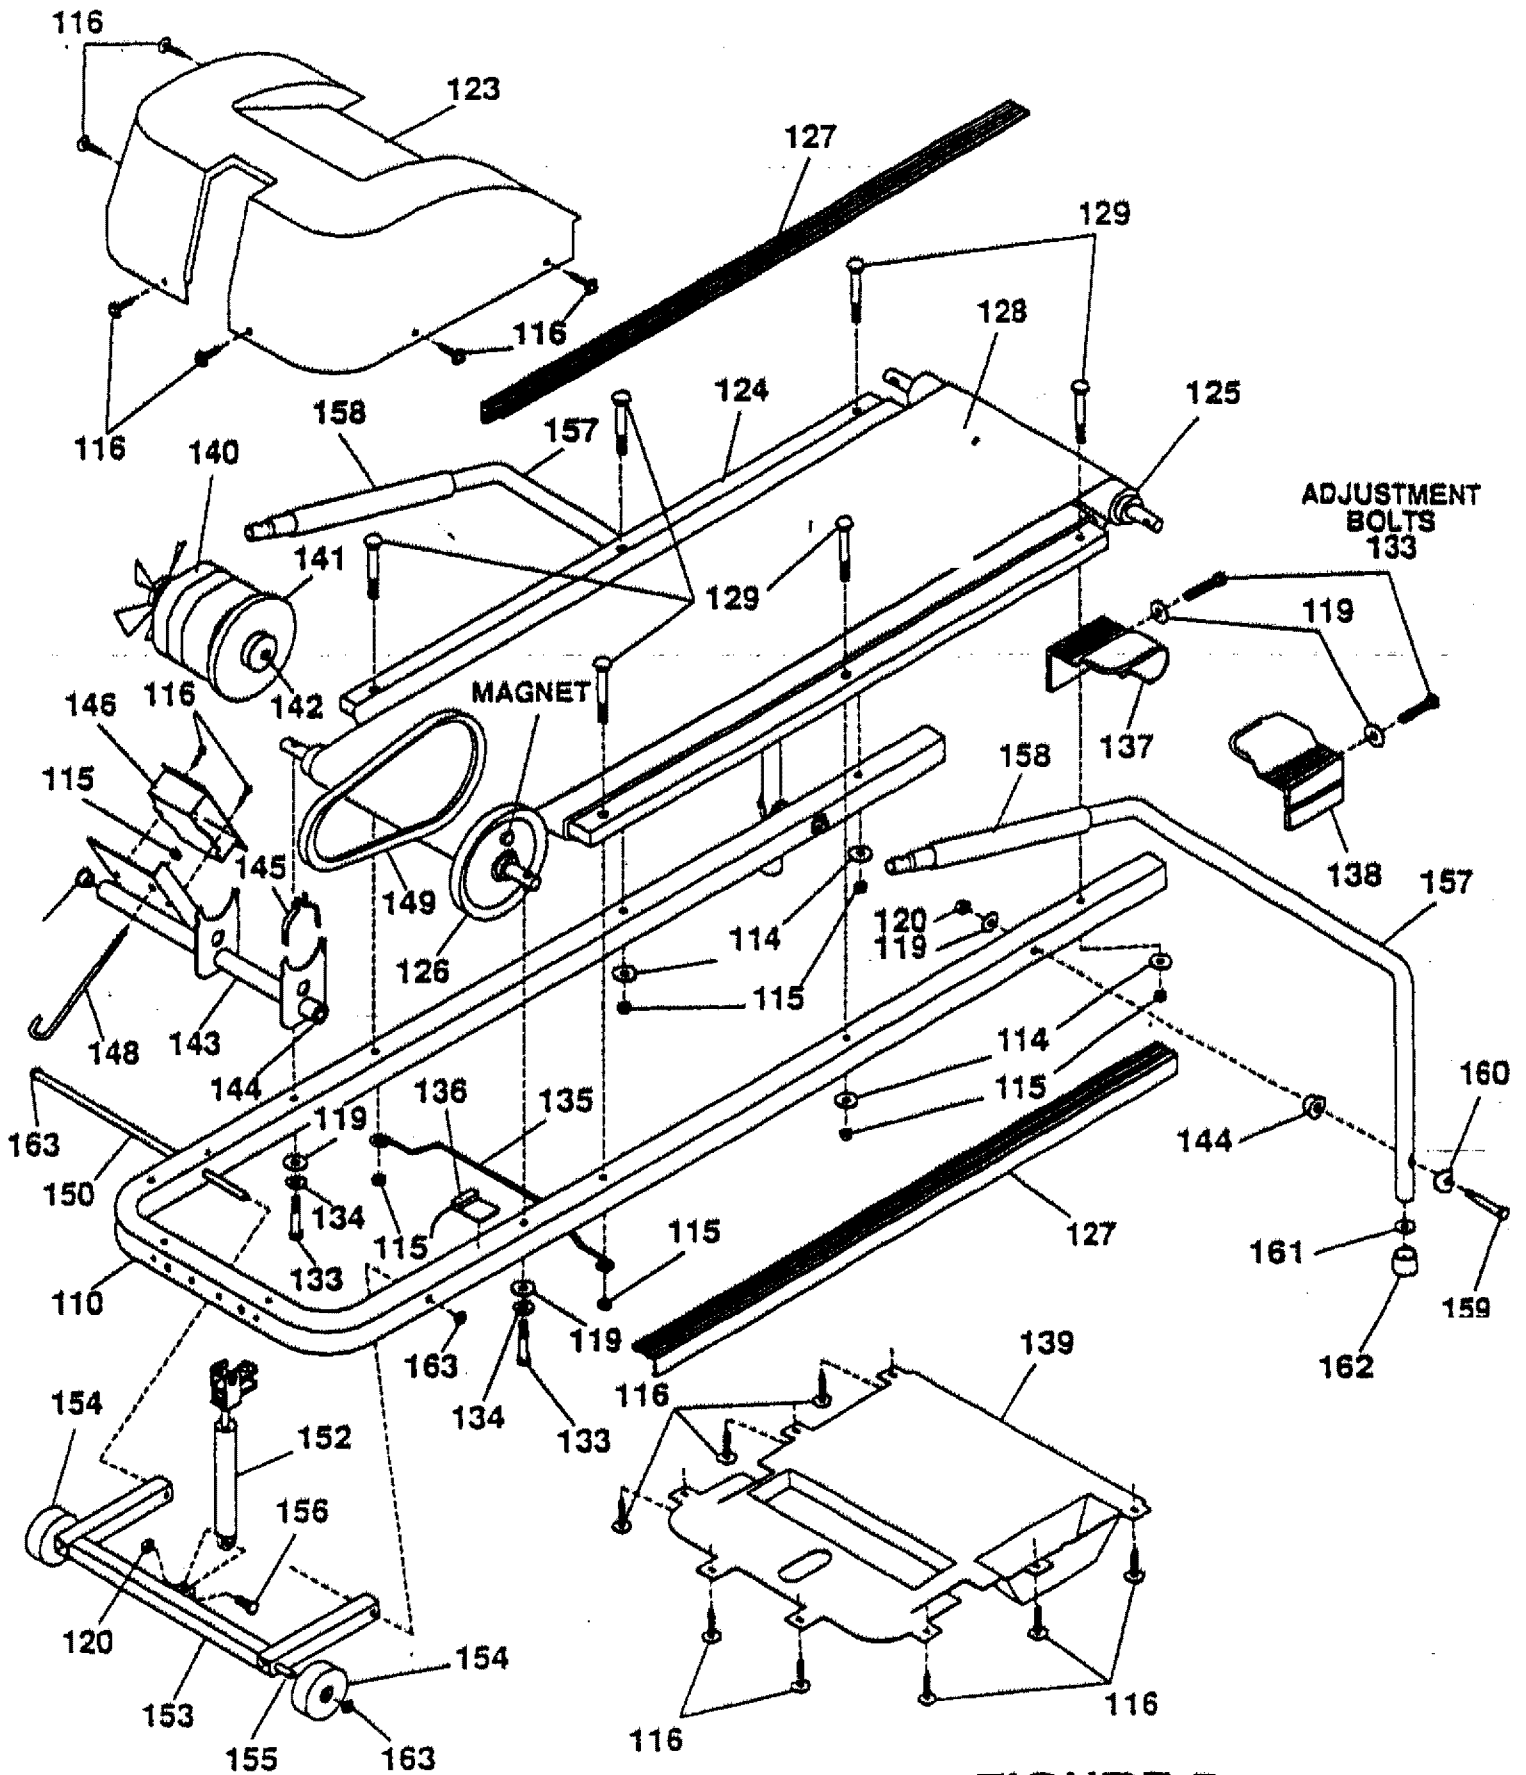

FIGURE 5
- b. Remove MOTOR COVER (No. 123) - see Figure 5.